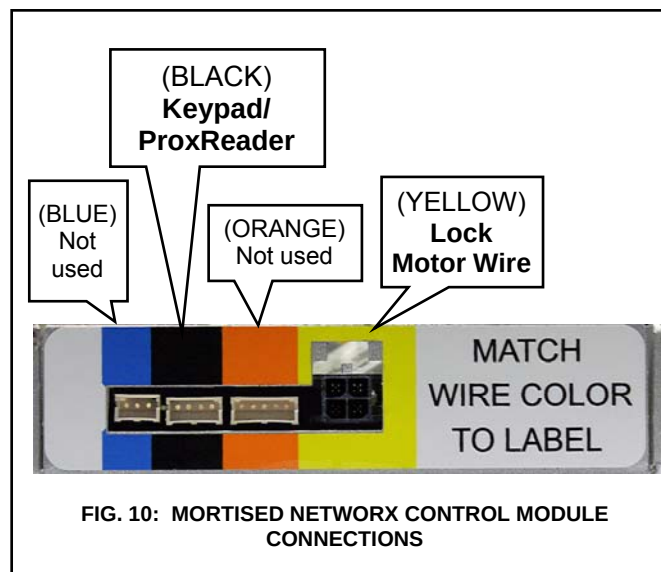

FIG. 10: MORTISED NETWORKX CONTROL MODULE CONNECTIONS
Observe the rear of the **Mortised Networkx Control Module** with its four (4) dissimilar sockets. Simply match the colors of the plug wire sleeves to the colors of the sockets (the **Blue** and **Orange** sockets are currently not used and are reserved for future use). See Fig. 10.